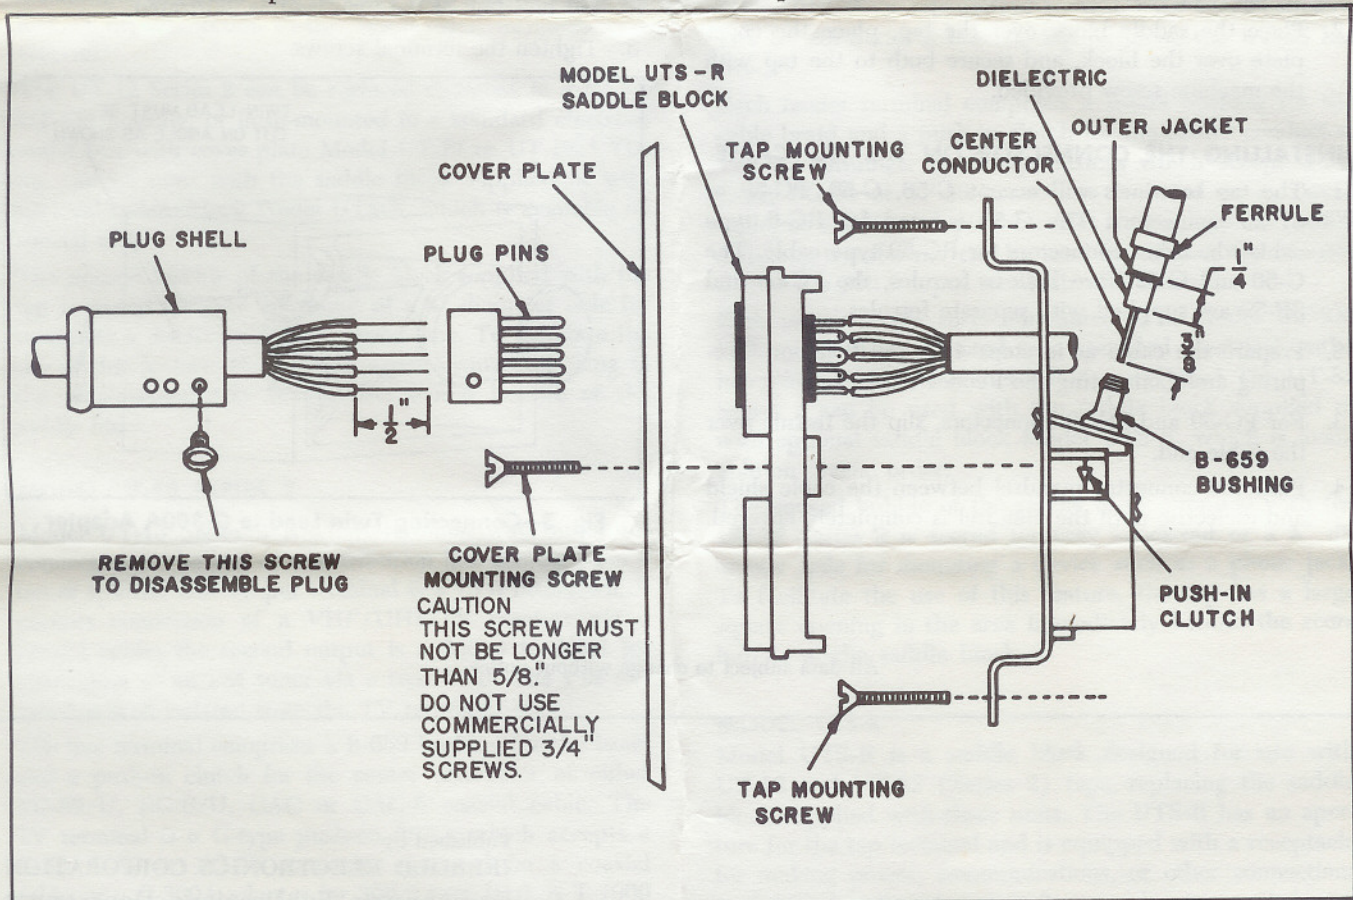

Fig. 1—Installation of Tap and Model UTS-R Saddle Block
4. From each cable end, remove $\frac{3}{8}$ " of the outer jacket (Fig. 1), taking care not to cut into the cable shield.
5. Disassemble the five-pin plug supplied by removing the screw at the base of the plug, and pass the connecting cable through the shell of the plug (Fig. 1).